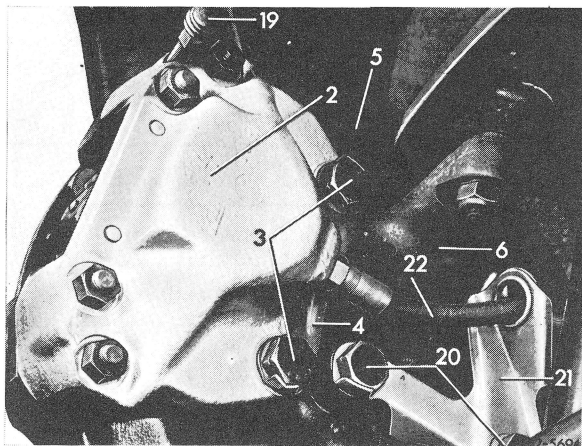

Fig. 2
**2** Unbend tab on holder (21), unscrew hex. screws (20) and remove steering knuckle arm (Fig. 2).
**6** Insert brake hose (22) through bore in holder (21) (Fig. 2).
**5** Attach steering knuckle arm to steering knuckle (6) using a new holder (21). Tighten hex. screws (20) to specified torque of 80 Nm (8 kpm) and secure (Fig. 2 and 3).